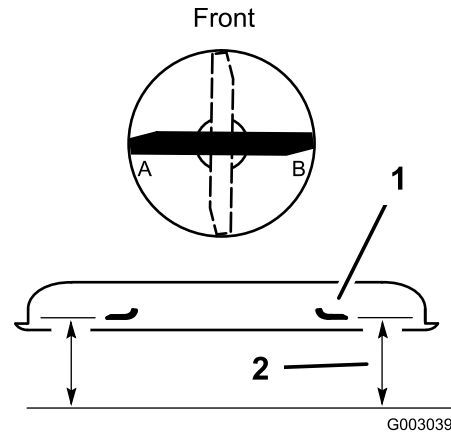

Figure 51
2. Position the blade side-to-side (Figure 51). Measure at **A** and **B** locations (Figure 51) from a level surface to the cutting edge of blade tips (Figure 51).